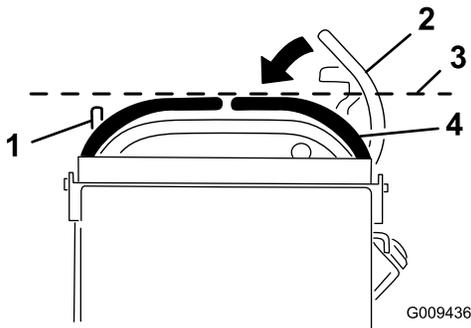

Figure 68
3. Push the right motion-control lever down out of the neutral-locked position (Figure 68).
4. Check if the right motion-control lever aligns horizontally with the left motion-control lever (Figure 68).